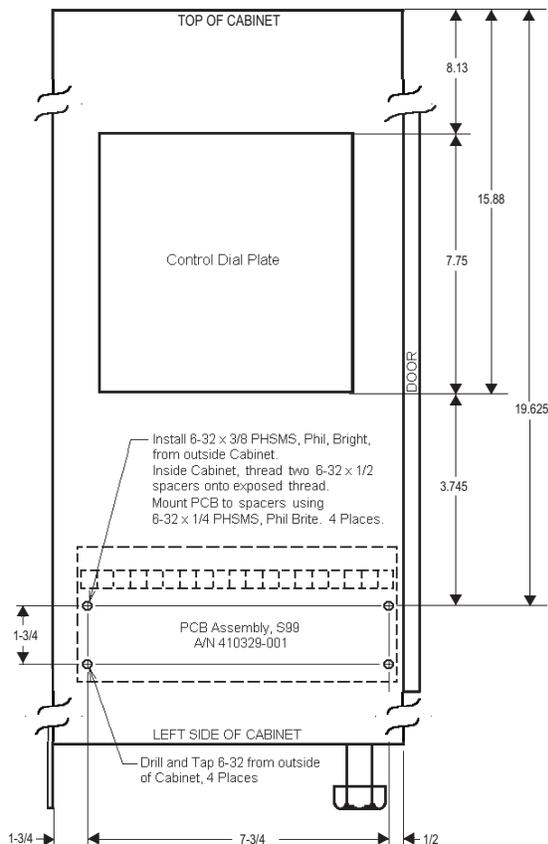

Figure C5. S99 Mounting detail for “L”, “H”, “G”, or “U” Cabinet
3. Remove the four (4) screws mounting the Terminal Strip Input Board (A/N 410329) to the cabinet. Rotate the Board 180° (so the terminal strip is at the top) and re-mount the Board using the same four (4) screws.
4. Drill and tap the left side of the cabinet per Figure C5, be sure to vacuum or otherwise remove ALL metal chips before installing four (4) 6-32 x 3/8 PHSMS, Phil., Brite from outside of cabinet. On the inside of the cabinet, mount two (2) 6-32 x 1/2 spacers (P/N 555031) on each exposed thread (4 places) to offset PCB 1" from cabinet wall.
5. Mount S99 PCB (A/N 410329-001) to spacers using four (4) 6-32 x 1/4 PHSMS, Phil., Brite. See Figure C5.